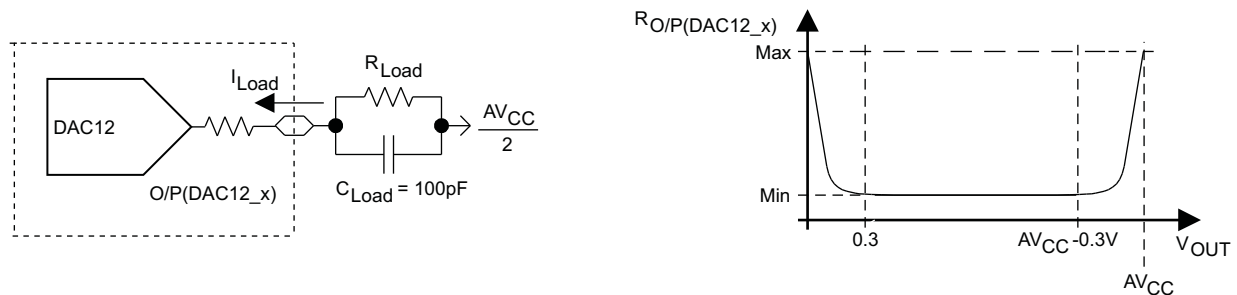

Figure 5-23. DAC12\_x Output Resistance Tests
| V O Output voltage range (1) (see Figure 5-23) | No load, V REF+ = AV CC , DAC12_xDAT = 0h, DAC12IR = 1, DAC12AMPx = 7                     | 2.2 V, 3 V      | 0                       |     | 0.005            | V    |
| R O/P(DAC12) Output resistance (see Figure 5-23)          | R Load = 3 kΩ, V O/P(DAC12) < 0.3 V, DAC12AMPx = 2, DAC12_xDAT = 0h                       | 2.2 V, 3 V      |                         | 150 | 250              | Ω    |